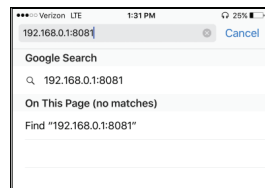

Figure 9: xPicoWiFi Web Address
5. Once connected, open a browser window and type "192.168.0.1:8081" in the address bar. Press the Enter key. See Figure 9.